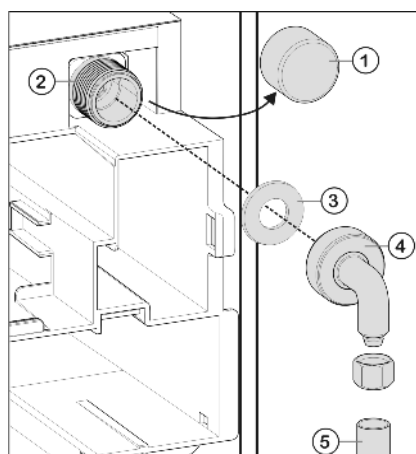

Fig. 40
- Remove the cap Fig. 40 (1) from the solenoid valve Fig. 40 (2).
- Ensure that the gasket Fig. 40 (3) is inserted in the elbow connection Fig. 40 (4) supplied.
- Connect the elbow adapter Fig. 40 (4) to the solenoid valve Fig. 40 (2) and tighten with an open-ended wrench, for example.
- Connect the domestic water supply Fig. 40 (5) (e.g. copper pipe) to the elbow connector Fig. 40 (4).